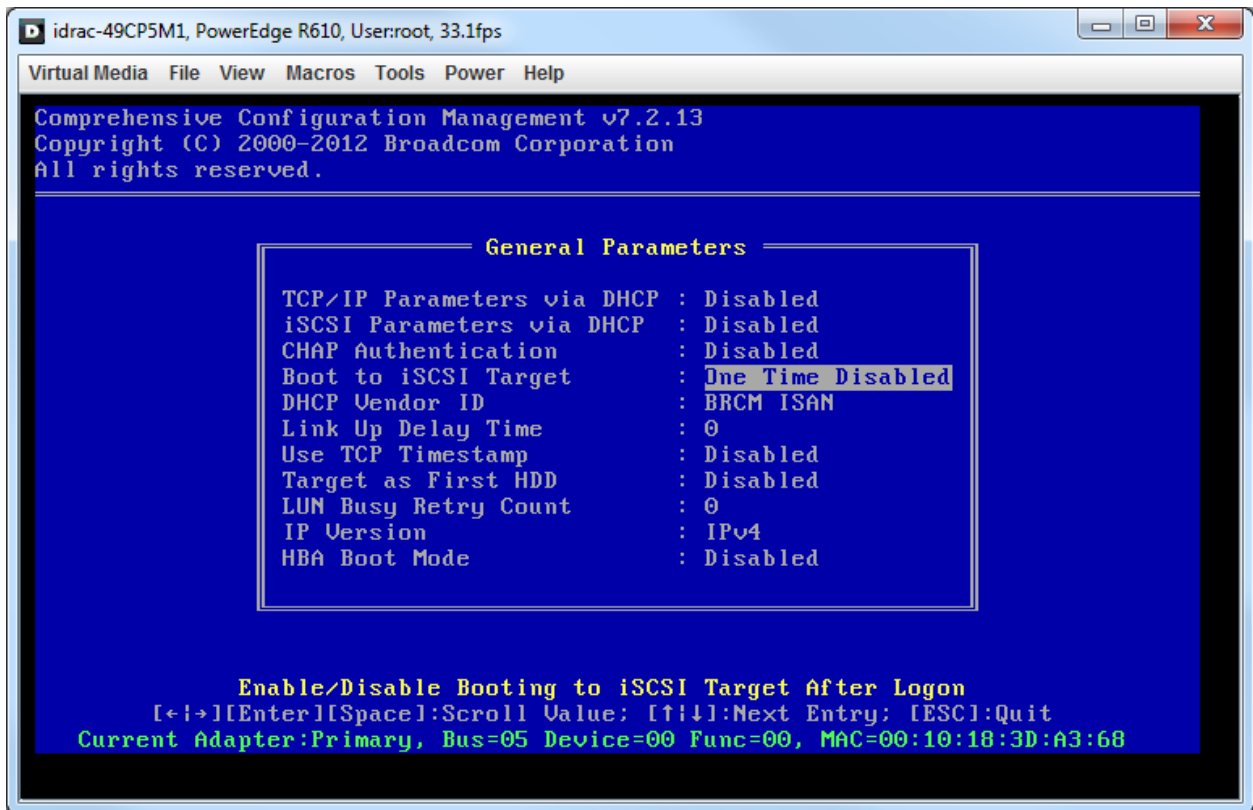

Figure 15 General parameters for a Broadcom network adapter enabled for iSCSI boot
6. Under **General Parameters**, ensure that all settings match those shown below. You can also see these settings in Figure 15.